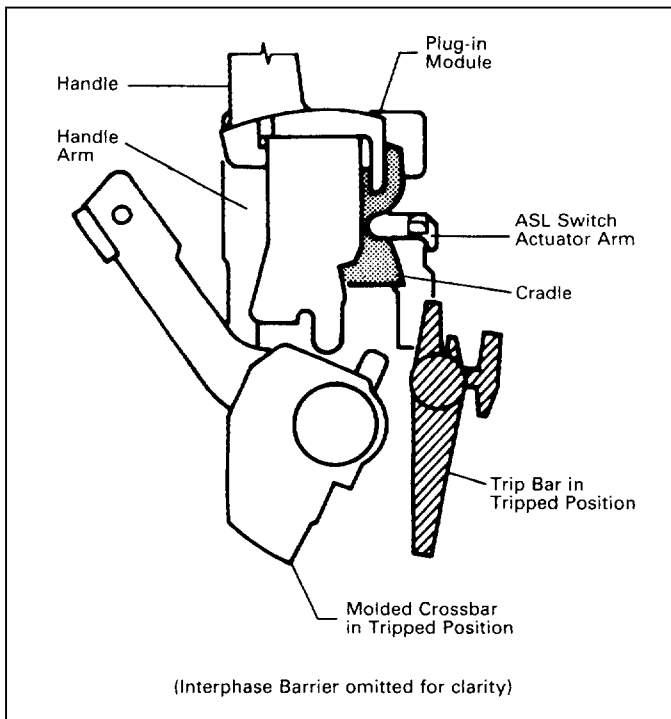
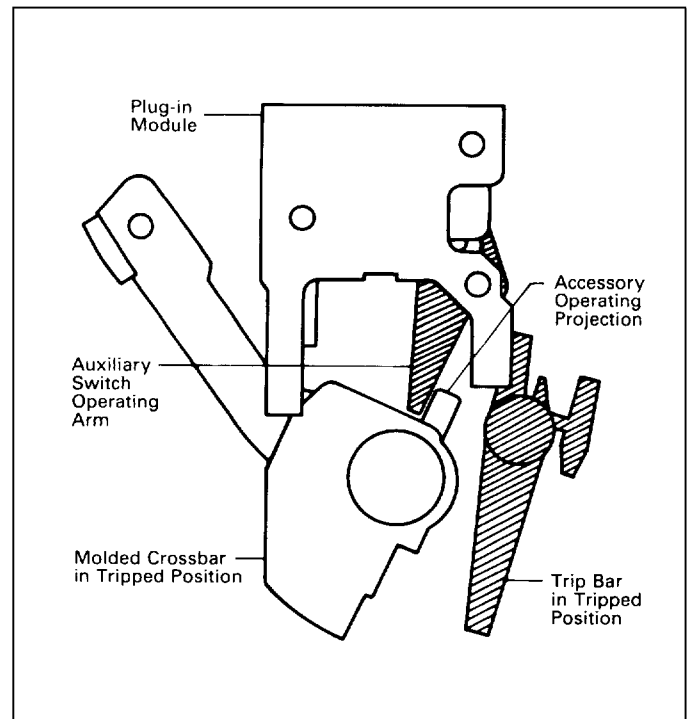

Fig. 2-6. Correct Position for ASL Switch Actuator Arm
Fig. 2-8. Correct Position for Auxiliary Switch Operating Arm
- a. Slide ASL switch plug-in module slowly into mounting slots in base. Be sure ASL switch actuator arm is positioned next to the cradle (Fig. 2-6). For terminal block assemblies, slide terminal block into mounting slot in side of base as plug-in module is being positioned.
- a. Slide accessory combination plug-in module into mounting slots in base. Be sure that ASL switch actuator arm is positioned next to the cradle (Fig. 2-6) and auxiliary switch operating arm is between the accessory operating projection on the molded crossbar and the arc extinguisher (see Fig. 2-8). For terminal block assemblies, slide terminal block into mounting slot on side of base as accessory combination is being positioned.